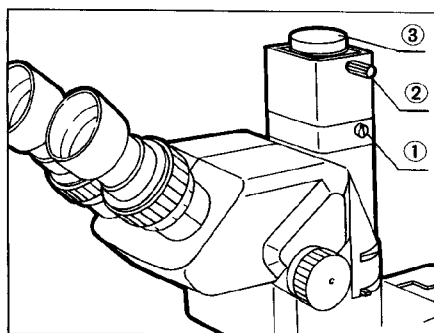

Fig. 10
- (1) Loosen the right and left body clamping knobs ①, and mount the video adapter by aligning the positioning groove of the video adapter with the positioning Pin. (Fig. 10)
- (2) Secure the video adapter by tightening the clamping knobs.
- (3) Loosen the video adapter clamping knob ② and remove the C-mount ③ from the video adapter. (Fig. 10)
- (4) Screw the C-mount into the video camera.
- (5) Mount the video camera with the C-mount attached to the video adapter, and tighten the clamping knob ②.